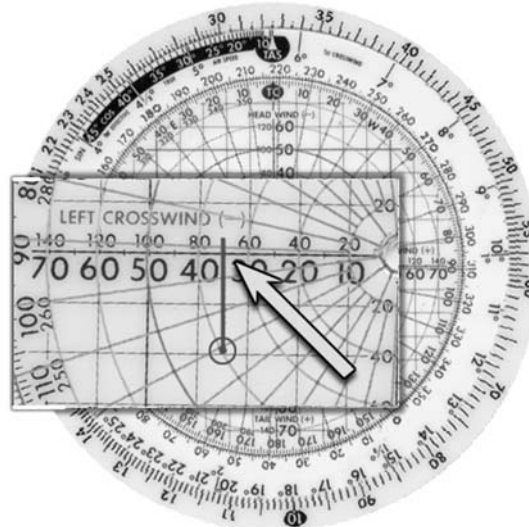

Figure 4.5-15 Preflight Wind Calculation 4
5. Determine the Crosswind component by drawing a vertical line (up in this case) from the wind dot to the Crosswind scale. Read velocity in knots remembering to use the same scale as step 2 (Figure 4.5-15).